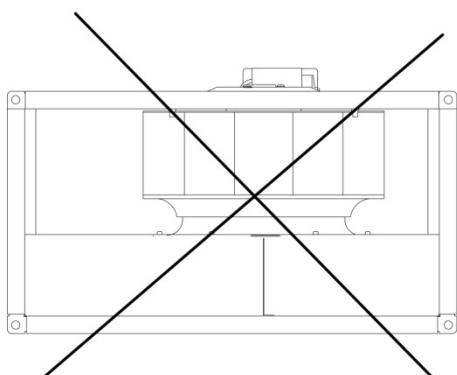
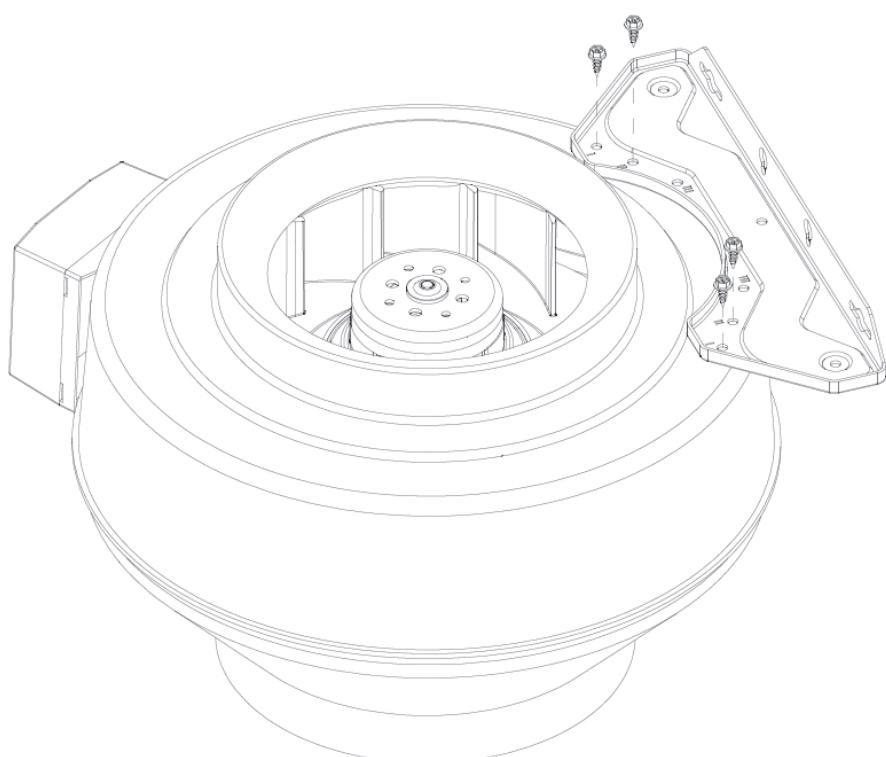

Fig. 1
Fig 3
Refer to Safety information above. Installation, electrical connection and commissioning are only to be carried out by authorised personnel and in accordance with requirements and demands. Electrical connections are made according to the wiring diagram in the terminal box, markings on terminal blocks or on cable. All 3 phase fans are delivered from factory in 400V 3~ connection. Seal any empty cable glands with dummy plugs. The K-fan must be installed with the connection box at the top of the unit ± 90 degrees. If permanent installation is carried out using cables with diameter 12-14 mm, the entrance bush must be replaced (applies to type K, KV, RVF and KVK 125/160). To preserve IP44 the RS fans must not be mounted with the connection box/motor plate upwards (**Fig.1**). Fans with thermal contacts with external leads (TK) must always be connected to external motor protection. Assemble the fan in the direction of airflow (see arrow on unit). The fan must be installed to ensure that any vibration is not transmitted via the duct system or frame of the building. (Suitable accessories such as fast clamps and diffusers are available). Make sure the assembly of the fan is firmly fixed and stable (**Fig 3**). The fan can be mounted in any direction unless stated otherwise. The fans must be installed to ensure that service and maintenance can be performed easily and safely. Disturbing noise can be reduced by installing silencers (available as an accessory). When using frequency regulation an all pole sinus filter must be mounted between motor and frequency controller (version all poles: phase to phase, phase to earth). Fans are meant for continuous use within the temperature range stated. Fans with manual thermal contacts (reset by disconnecting the power, motor protection SP1), must be taken into consideration when connecting surrounding equipment with automatic on/off function. Recomended wiring for KT fans (**Fig 2**).